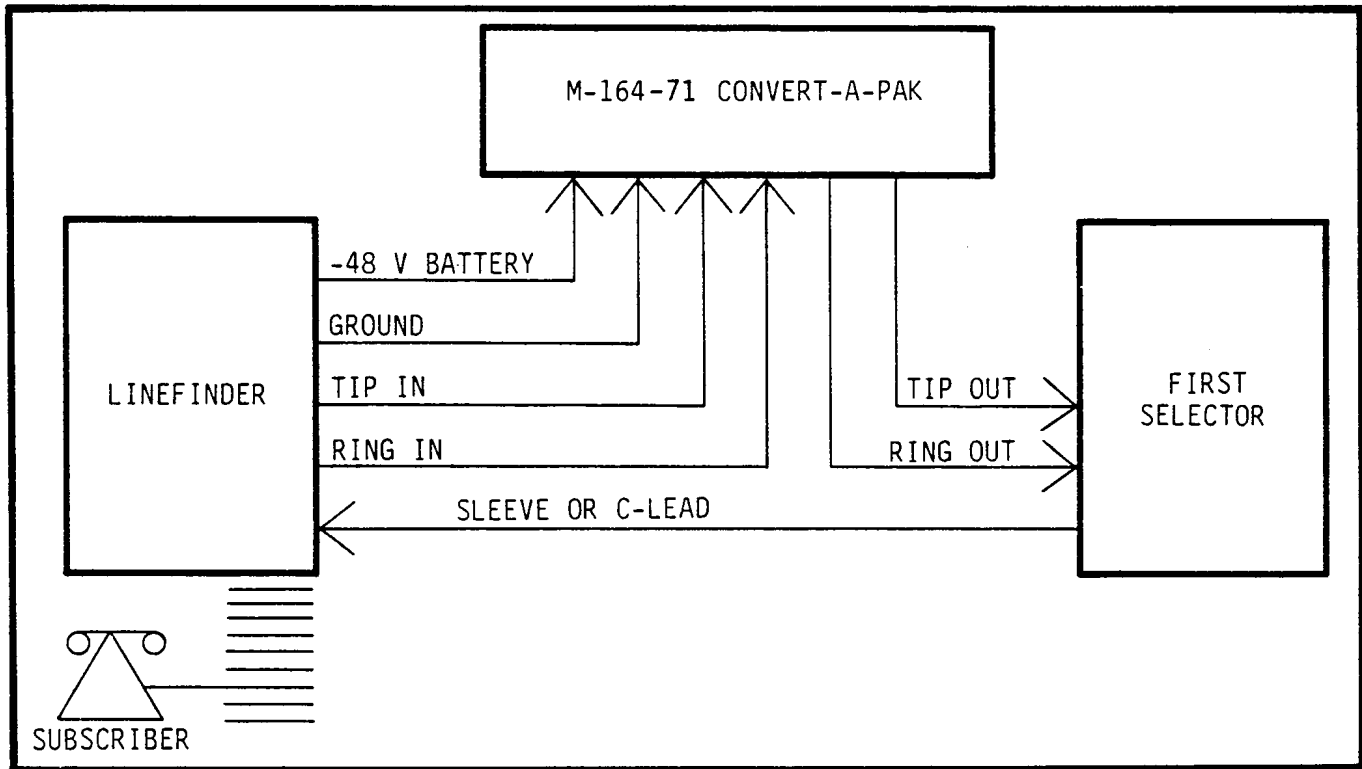

Figure 2 System Connections
- Installation requires connecting only the Tip and Ring pair leads and the battery and ground leads (see Figure 2).